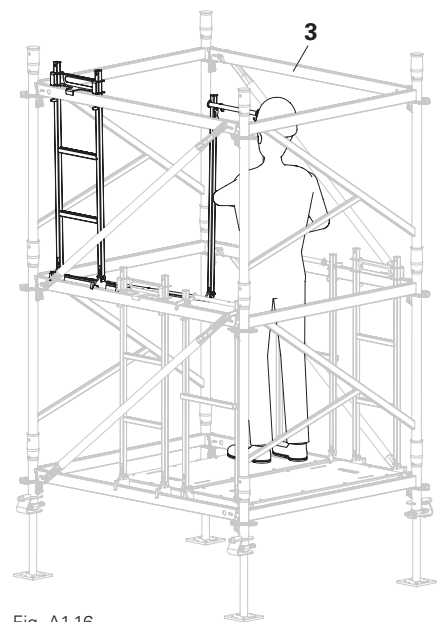

Fig. A1.16
2. Release the two hooks on the red side opposite and hook them into the top horizontal ledger (3). (Fig. A1.16)
- Is the yellow lug (8e) positioned against the horizontal ledger? (Fig. A1.16)